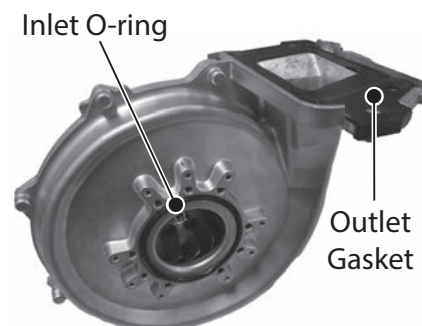

Figure 104 - Install inlet O-ring and outlet gasket to new fan assembly
- 21** Locate the new fan outlet gasket, and inlet O-ring provided in kit. Install outlet gasket and inlet O-ring to fan (see Figure 104). Once installed, make sure the outlet gasket and inlet O-ring are fully seated and not damaged.